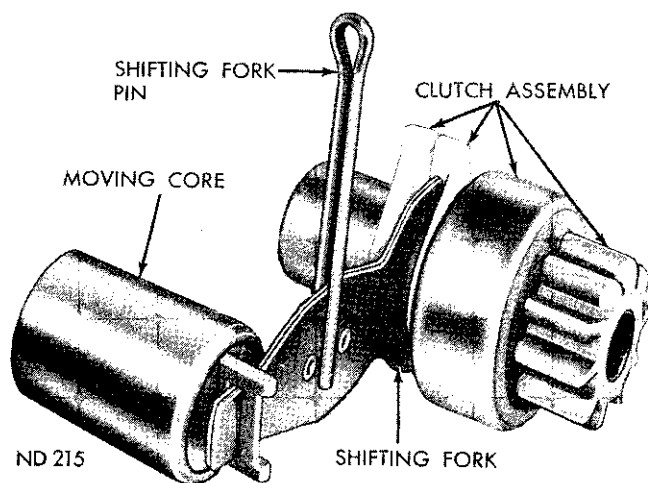

Fig. 17—Shifter Fork and Clutch Arrangement
(5) Complete installation of pinion shaft, engaging shifting fork with clutch actuators. Figure 17 shows